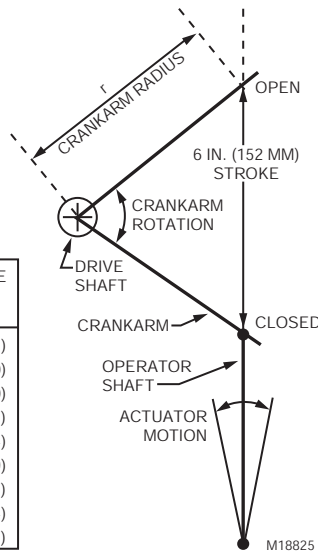

Fig. 3. Inlet vane crank arm rotation versus radius for a 6 in. (152 mm) actuator stroke.
1. Determine required inlet vane crank arm radius. See Fig. 3.